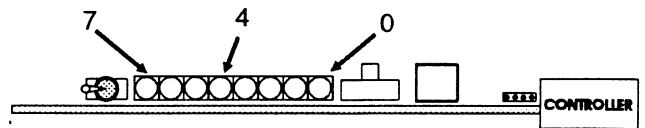

Fig. 5-5.
DIGITAL INPUT is selected and there is no signal at the COMPOSITE DIGITAL INPUT, then CONT ERR (6), BYPASS (4), and 3 light. In general, LED 7 is a Memory Error, LED 6 is a Controller Error, and LED 5 is a Remote Communications Error. For more information on the other LEDs or the Diagnostics see "Controller Board Diagnostics" later in this section. Fig. 5-5 shows the location of the Diagnostic Indicators.